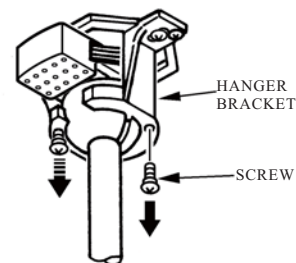

FIG.8
3. Remove one of screws and loosen the other screw from the hanger bracket. (see Fig. 8)